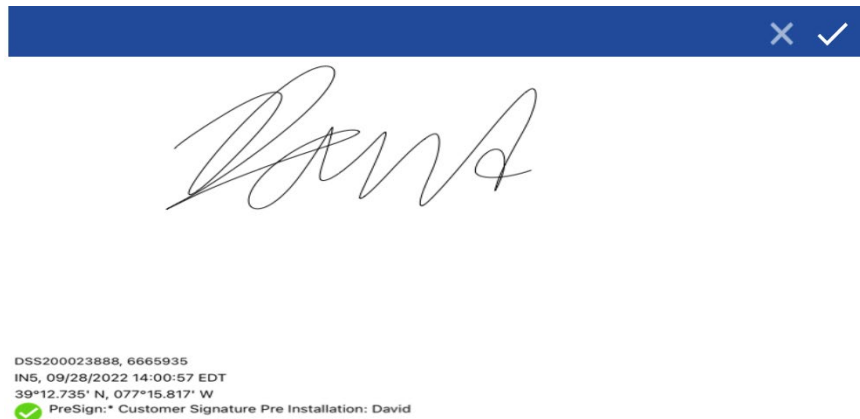

Figure 50: Good signature
5. Tap **Done**. A confirmation page will appear if the signature was good (Figure 50). If the customer signature needs to be re-captured, a warning will appear (Figure 51). Tap the **checkmark** to continue.